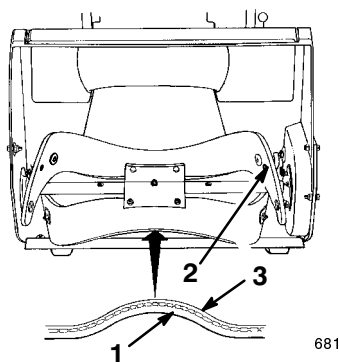

Figure 24
1. Examine a new rotor blade edge for the difference in layer thickness (Fig. 24). Some rotor blades have a part number on the thick side of the blade.
Install the rotor blades with the thick layer on the **inside** of the curve. (Fig. 24). If you do not install the blades properly, the blades may be out of balance and cause the snowthrower to “hop” or “bounce.”
3. Secure the rotor blade to the rotor halves with two hex-head capscrews, two spacers, and two locknuts, positioning the bolt heads on the thick side of the blade (Fig. 24).
4. Curve the rotor blade and secure it with the remaining torx screws and locknuts, positioning the screw heads on the thick side of the blade (Fig. 24).